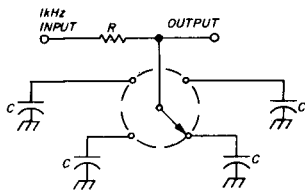
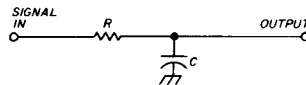

fig. 1. Diagram of a simplified commutating filter. The switch makes one revolution each period of the desired signal frequency to be filtered.
fig. 2. Simple RC lowpass filter from which the commutating filter is derived.
fig. 2. Voltage-dropping resistor R11 added to reduce low voltage to small tubes in KWM-2. A heat-dissipating resistor in a finned housing is recommended. This is bolted to the chassis sidewall near the 5R4GY socket. A Dale type RH-25 resistor or equivalent is suggested.
260 volts on transmit. If the voltage is much higher than these values, add a 75-150 ohm, 25-watt wire-wound dropping resistor, R11, as shown in fig. 2. The small tubes in the KWM-2 will run much cooler if you do this. The 5U4GB rectifier in the power supply should be replaced with a solid-state plug-in rectifier, and the resistance value of R11 should be chosen to deliver the correct voltage. Substitution of the rectifier improves regulation and removes 15 watts of filament power from the supply transformer.
**Agc overload and audio distortion on strong SSB signals?** It's recommended that this useful modification be performed along with the previous one in cases where both arrangements are missing from the transceiver. This modification adds hang agc to the receiver rf amplifier (fig. 7) and greatly improves strong-signal reception. Refer to the under-chassis layout of fig. 2 for placement of parts:
fig. 7. Adding hang agc to your KWM-2. (A). Parts placement is shown in (B). (See also fig. 2.) Terminal support E40 is between socket XV16 and inductor L9. New resistors are ½ watt.
The commutating filter is a good example of how digital techniques provide a simple solution to an analog problem, but which would not work without the addition of some circuitry that is strictly analog. The commutating filter, as presented in fig. 1, is designed for 1 kHz; it is a bandpass filter, and its cen-
ter frequency is dependent only on the frequency with which it is driven. The bandwidth is dependent only on R and C; in fact, this bandwidth is exactly twice the cutoff frequency of the single RC lowpass filter of fig. 2. If you look at the voltage on any one capacitor of the filter of fig. 1, you'll see a near-dc signal which is the difference-frequency between the drive frequency and the signal frequency. Like the simple RC lowpass of fig. 2, it will drop to -3 dB when the signal frequency drops to  $\frac{1}{2} \pi RC$  above the drive frequency. It is easily seen why the bandwidth is double the cutoff frequency of a simple RC lowpass filter. Since the output is being commutated sequentially through the four capacitors, it is modulated back up in frequency to that of the input, and phase is preserved.